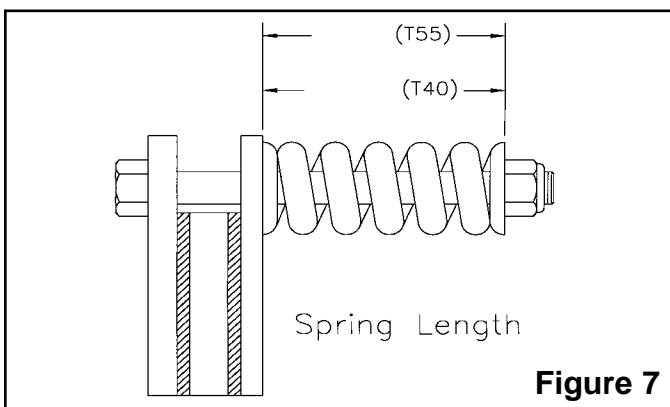

Figure 7
- Tighten each of the eight bolts evenly until the springs are compressed to the proper dimension for your tiller model as shown in Figure 7. T40 Model length is $1\frac{3}{16}$ " (1.187) and T55 Model length is $1\frac{5}{32}$ " (1.156).
If a clutch continues to slip when the springs are compressed to the proper length as shown in Figure 7, check friction disc for excessive wear. Discs are $\frac{1}{8}$ " when new. Replace discs after $\frac{1}{16}$ " wear. Minimum disc thickness is $\frac{1}{16}$ ".